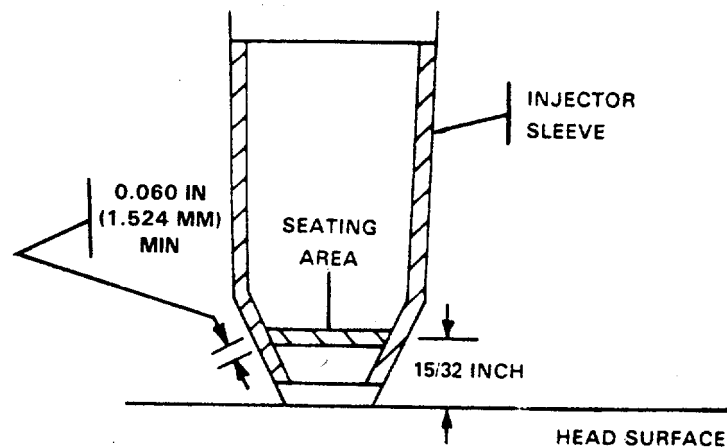

FIGURE 4-17. *Injector Sleeve Measurements.*
- (3) Check injector protrusion. Check the sleeve to ensure the protrusion of the injector tip and the seating pattern is correct.
- (e) The pattern in the sleeve must be a minimum of 0.060 inch (1.52 mm) wide and 0.469 inch (11.91 mm) from the bottom surface of the cylinder head (Figure 4-17).
- (k) Specifications. Table 4-2 lists specifications for cylinder head, valves, crosshead pins, and injector sleeves. See Figure 4-17 for reference numbers in Table 4-2.